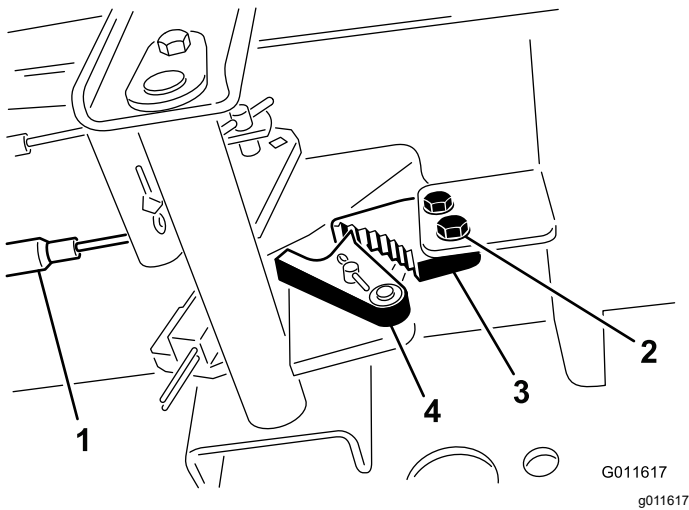

Figure 140
2. Loosen the 2 screws securing the parking-brake pawl to the frame (Figure 140).
3. Press the parking-brake pedal forward until the brake detent completely engages on the brake pawl (Figure 140).